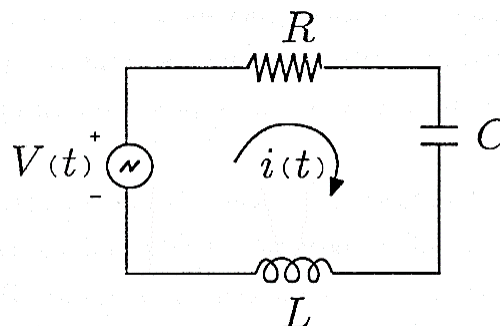

Figure 2: Series RLC circuit
Equation (3) represents the mass-spring-damper system shown in Figure 2. This is the same system simulated in Lab 02 through *ode45* solver.
Consider the series RLC circuit shown in Figure 2. Let, $V = 10V$, $R = 10\Omega$, $L = 2.0 H$ and $C = 0.01F$.